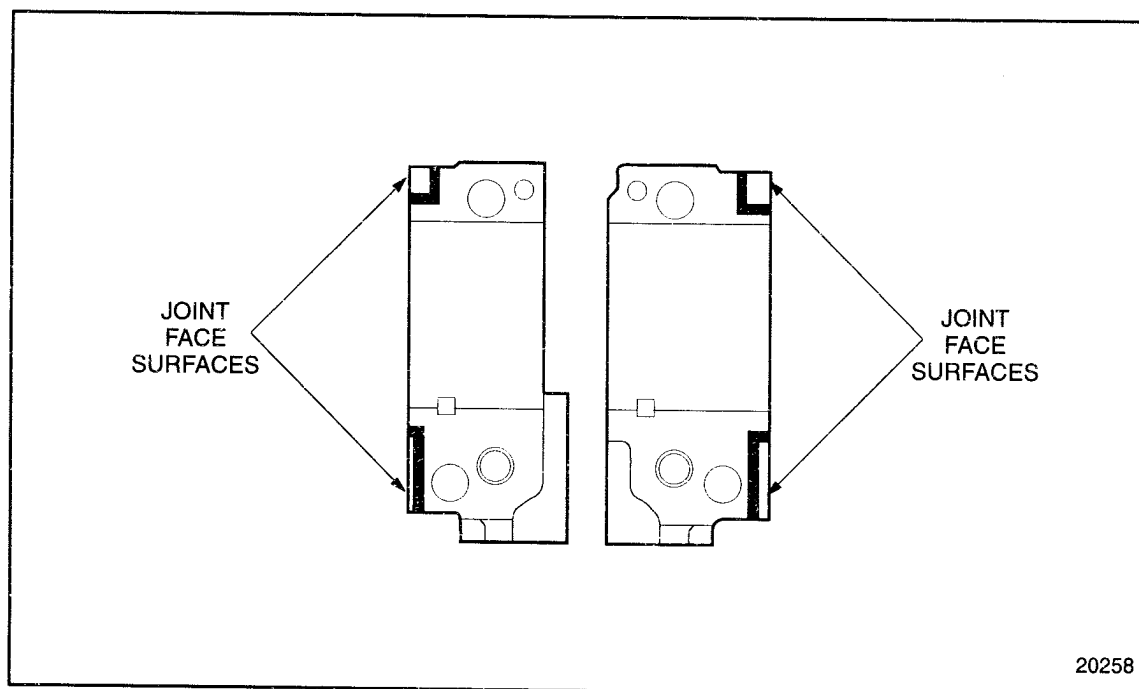

FIGURE 1-288 Gasket Eliminator Application
10. Apply a thin bead of Gasket Eliminator PT-7276, Loctite 51580 or equivalent to the joint face surfaces of the Number 1 and 7 camshaft caps. See Figure 1-288.